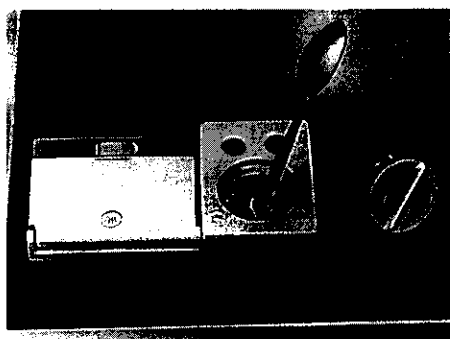

Figure 5.
To fill the rinse agent reservoir (refer to figure 5):
- Adjust the calibration knob to the number desired. The knob may be turned by using the handle of a spoon as shown in figure 5.